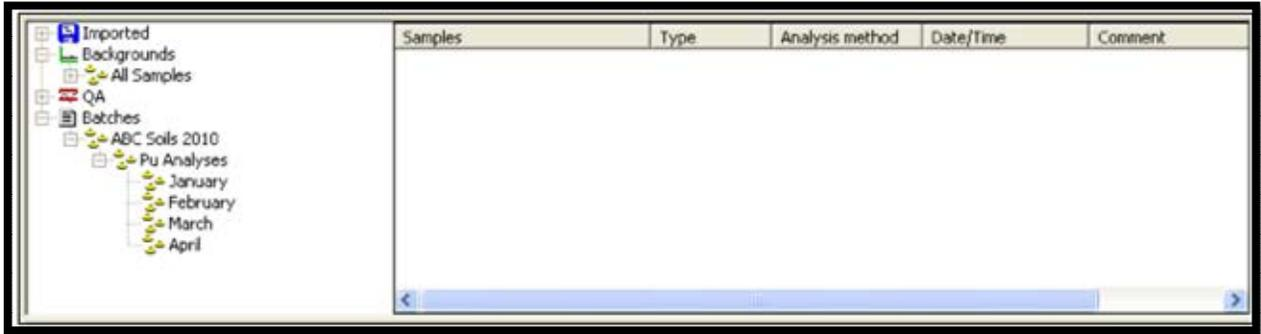

Figure 172. Completed Branch Explorer Tree
- 4) Finally, because the example project is expected to last 4 months, insert the four sub-branches *January*, *February*, *March*, and *April* under the *Pu Analyses* sub-branch. Figure 172 shows the completed Batch Explorer Tree for the project.